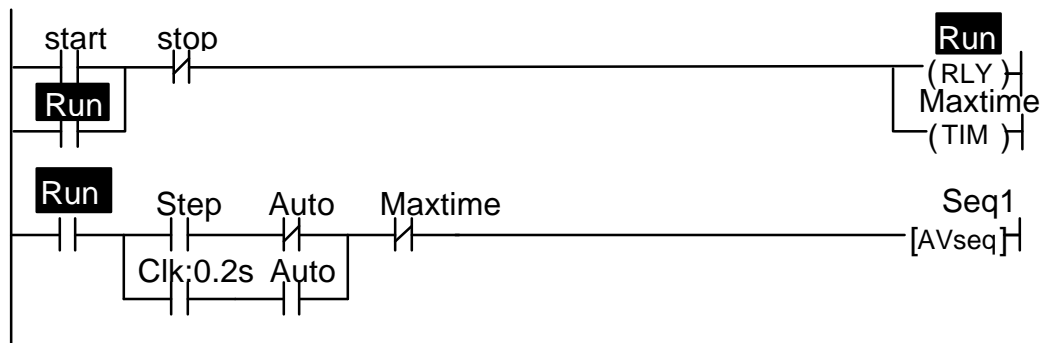

Figure 3.12
i.e. the logic states of any i/o can be displayed on the ladder diagram directly. An input, output, relay, timer or counter contact that is turned ON will have its label name highlighted in the ladder diagram. This feature helps greatly in debugging and understanding the logical relationship between each i/o. For example, from Figure 3.12, we can see clearly that the "Self-latching" circuit for relay "Run" works as intended: when we first turn ON the "Start" input, "Run" will be energized and its contact which is parallel to "Start" will hold itself in the ON state, even if we subsequently turn OFF the "Start" input.